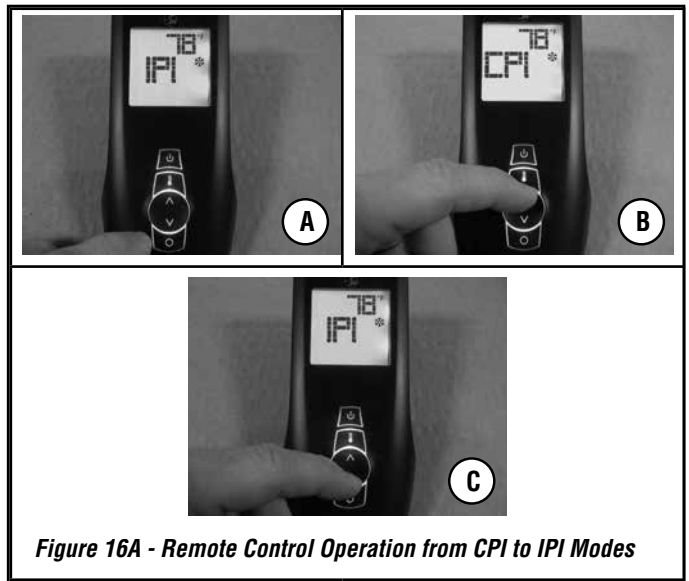

Figure 16A - Remote Control Operation from CPI to IPI Modes
1. With power connected to the fireplace and remote indicating OFF, (A) press "0" on the remote handheld. "IPI" will be on the remote screen. (B) Press UP arrow to move "IPI" to "CPI" and (C) Press DOWN to move "CPI" back to "IPI" (must be completed within 10 seconds). See **Figures 16A** and **16B**.